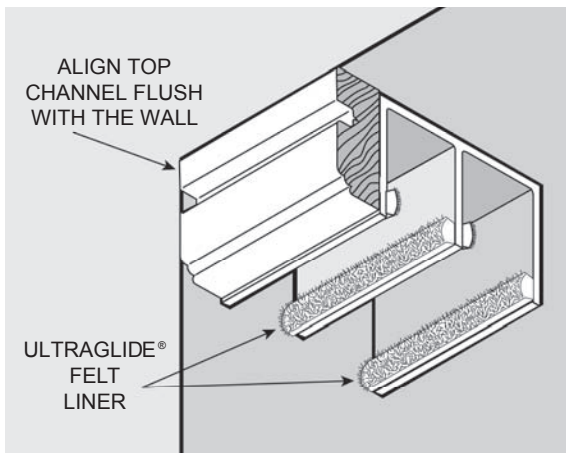

Figure 1
- C. When cut to proper length, install Top Channel (#2) up to the top front of closet opening making sure that the front of the Oak Fascia on the Top Channel (#2) is flush with outside walls (See Figure 1). Hold up the Top Channel (#2) in the desired position and with your Pencil, mark where the pre-drilled holes are in the Top Channel (#2).